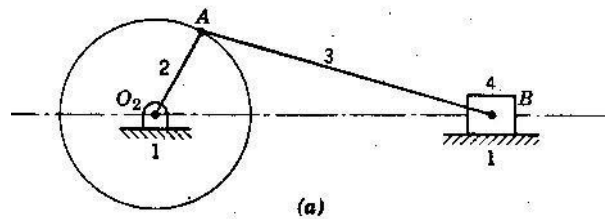
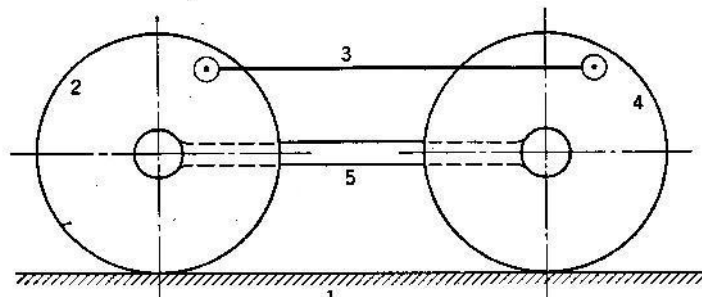

Fig.1.1
Fig.1.2
**Translation:** A body has translation if it moves so that all straight lines in the body move to parallel positions. Rectilinear translation is a motion wherein all points of the body move in straight line paths. Eg. The slider in slider crank mechanism has rectilinear translation. (link 4 in fig.1.1)
Translation, in which points in a body move along curved paths, is called curvilinear translation. The tie rod connecting the wheels of a steam locomotive has curvilinear translation. (link 3 in fig.1.2)
**Rotation:** In rotation, all points in a body remain at fixed distances from a line which is perpendicular to the plane of rotation. This line is the axis of rotation and points in the body describe circular paths about it. (Eg. link 2 in Fig.1.1 and links 2 & 4 in Fig.1.2)
**Translation and rotation:** It is the combination of both translation and rotation which is exhibited by many machine parts. (Eg. link 3 in Fig.1.1)